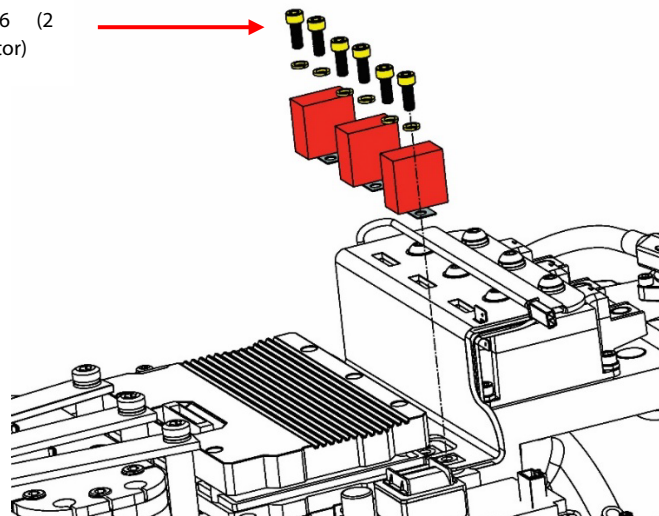

**Figure 1 - DC Bus Voltage Test Points**
7. Using an appropriately-rated voltage meter, check the DC Bus Bars for DC voltage level. If the voltage is above 30 volts direct current (VDC), wait five (5) minutes and recheck until voltage is below 30 VDC. Refer to Figure 1 - DC Bus Voltage Test Points.